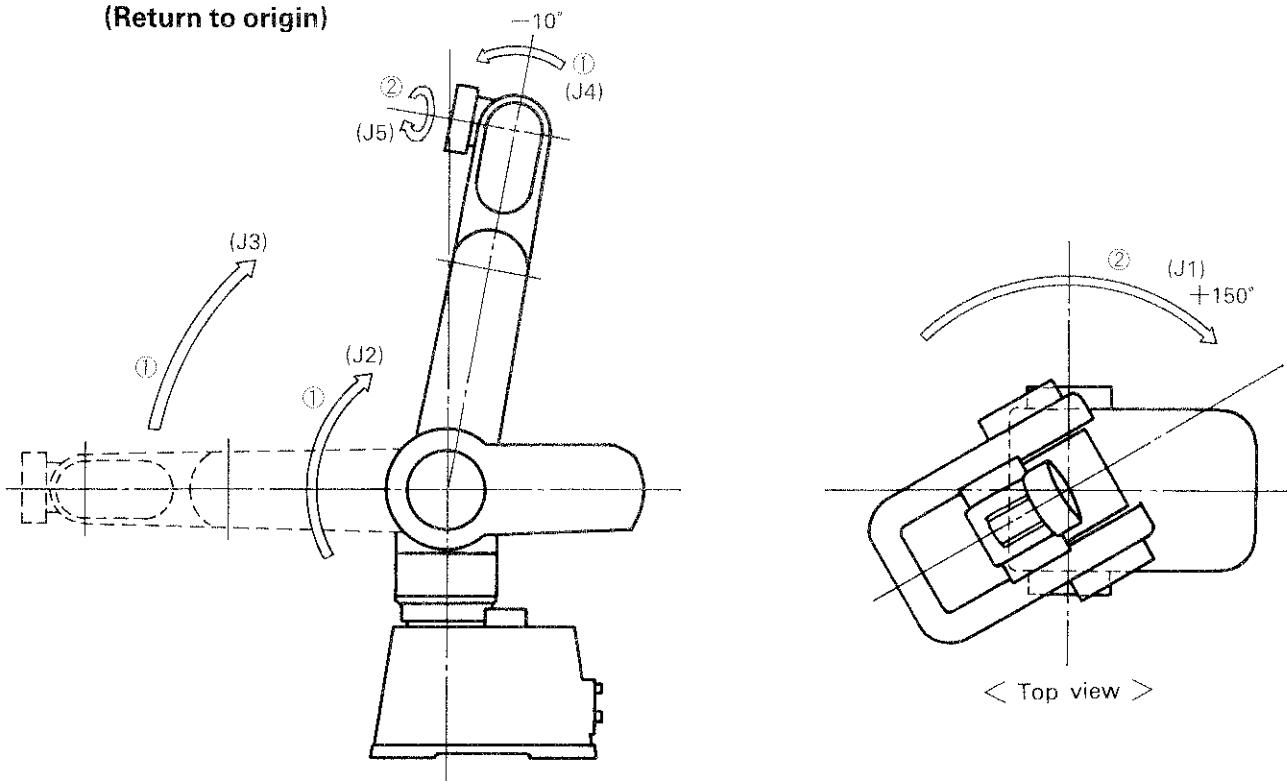

Fig. 1.3.7 Robot Zeroing Operation
- (1) The robot of the Movemaster EX RV-M1 must be returned to origin after power on. (For details, see Section 4.3 Origin Setting, Vol. 2.)
- (2) The arm should be moved as appropriate by jog operation before return to origin so that the robot will not interfere with any peripheral equipment during set origin.
- (3) Return to origin procedure (See Fig. 1.3.7.)
①	②